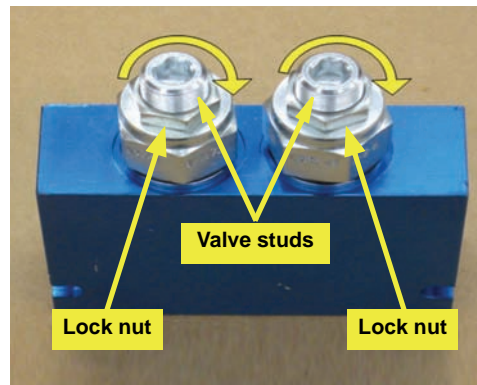

Figure 1b: CBV - turning the valve studs (lock nuts loosened)
- b. Loosen the two locking nuts on the valve studs. Do not remove the nuts from the valve studs. Using an allen wrench turn the two valve studs clockwise three complete turns (Figure 1b).